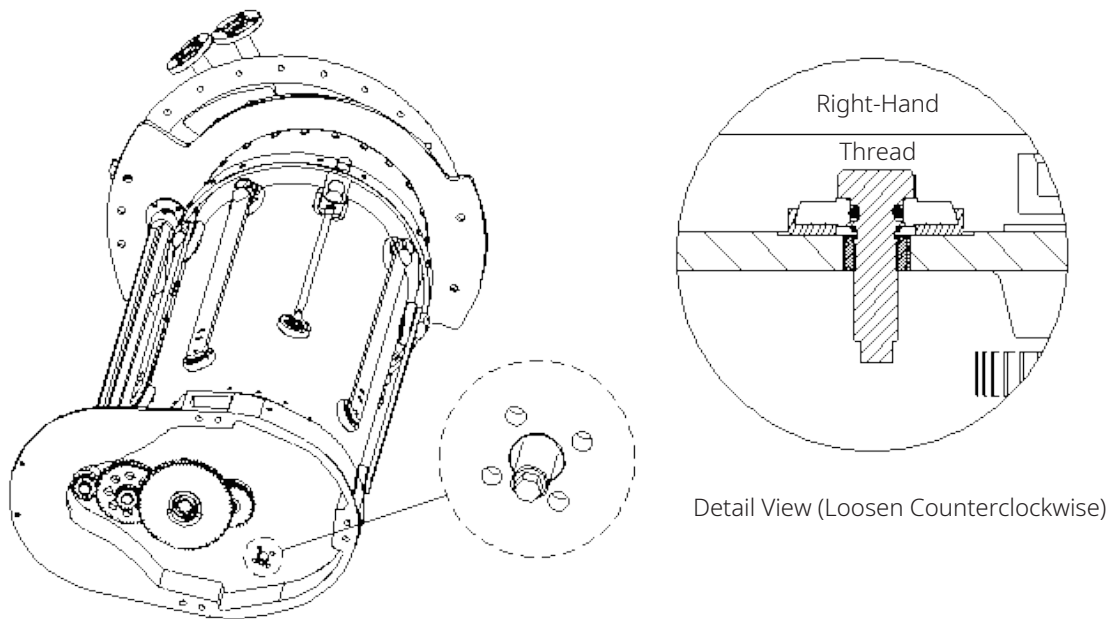

Figure 7-2 Oil Drain Bolt (Schematic)
- Loosen the oil drain bolt located between the bottom of the Diverter Switch oil compartment and the Tap Selector mechanism by turning it counterclockwise (See Figure 7-2).